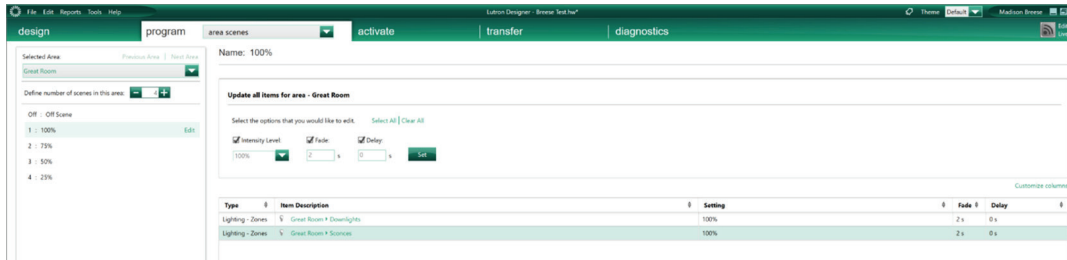

Figure 21
2. It is recommended to utilize area scenes when programming DALI® loads in order to avoid popcorning. To create area scenes, navigate to Program > Area Scenes and select which area to program. Up to 16 different scenes can be created for each area of the home. See Figure 21 for an example of an area with area scenes created.